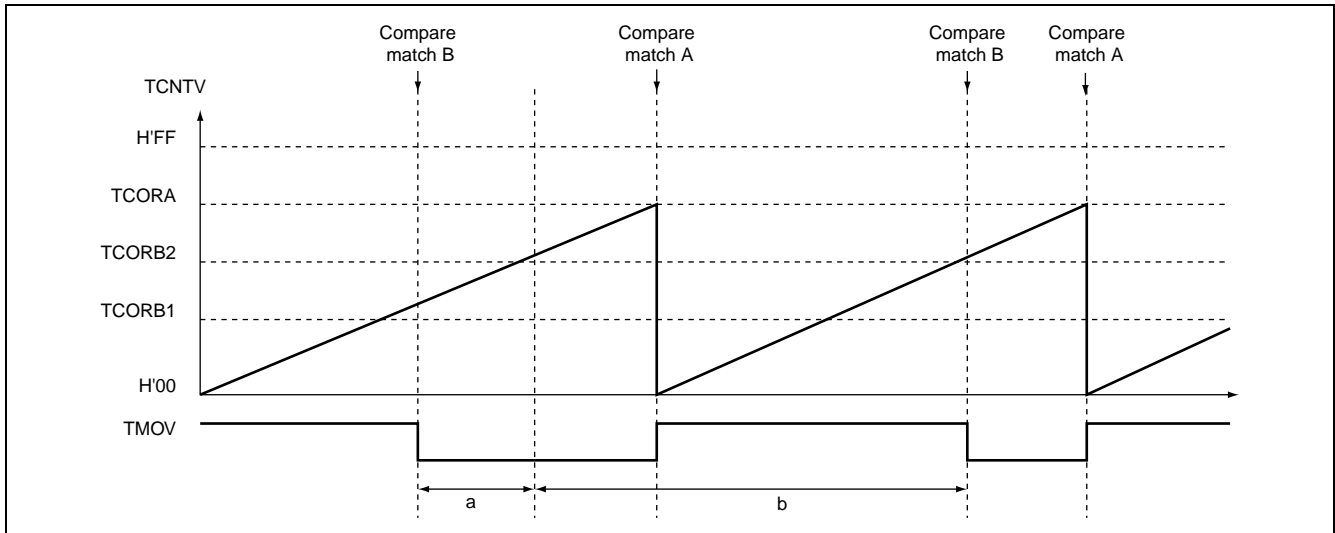

Figure 2.3 TCORB Rewrite Timing for Higher Duty Cycle
Figure 2.3 shows the timing for rewriting TCORB to increase the duty cycle.
- TCORB is updated to the new value immediately after being written to. Therefore, if TCORB is rewritten during period a in figure 2.3 to increase the duty cycle, compare match B occurs consecutively, and a normal PWM waveform is not output. Accordingly, TCORB must be rewritten during period b, as shown in figure 2.3.